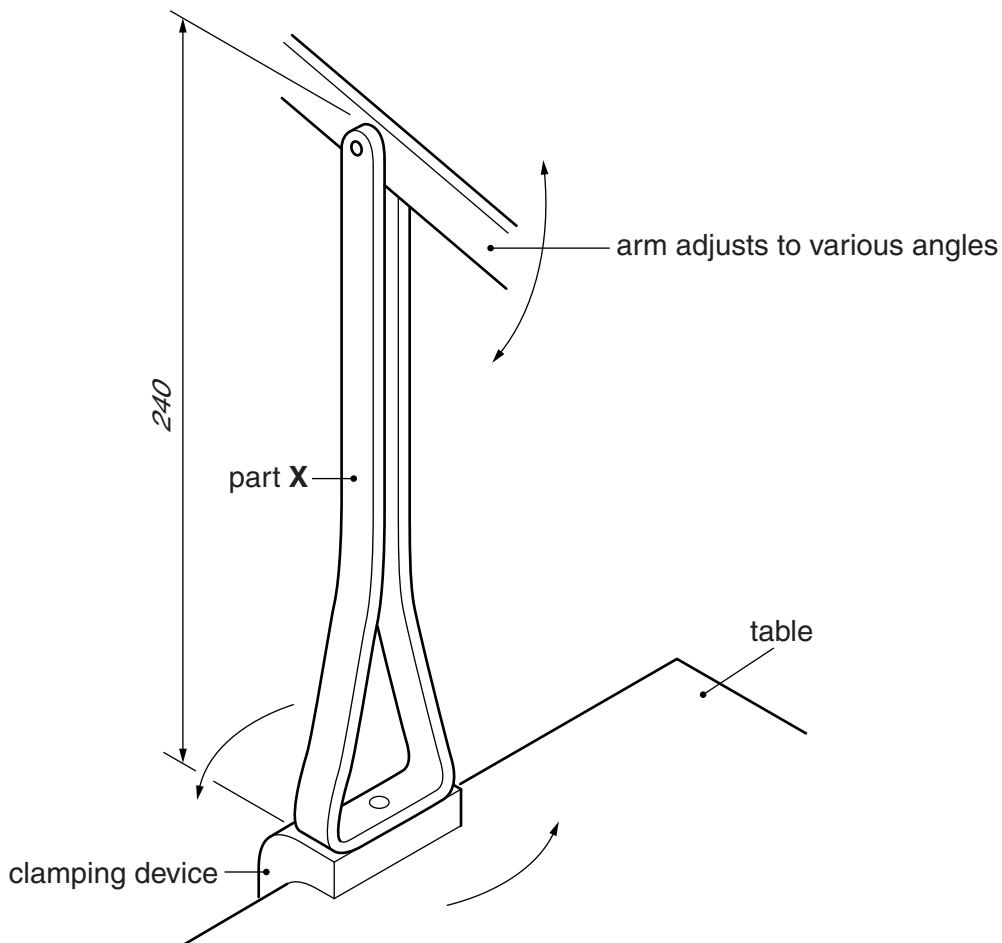

Fig. 7
7 Fig. 7 shows an incomplete idea for an adjustable lamp.
- (c)** Using notes and sketches, **develop** a design which allows the lamp to be clamped to a table. The design must include a way of joining the clamping device to part **X**. Part **X** must be able to rotate as shown in Fig. 7. [20]